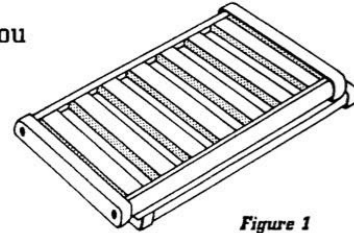
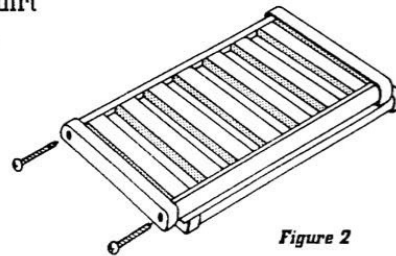

Figure 1
Figure 2
► Put the ventilator in a closed position (*figure 1*). Keeping the ventilator closed, remove the two **silver** screws from the plain plastic endcap closest to you (*figure 2*).